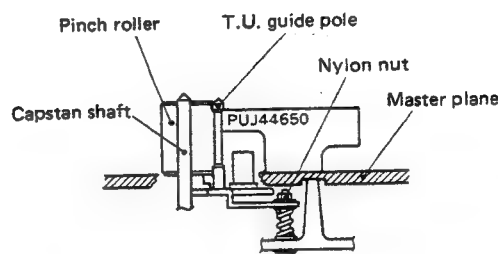

Fig. 2-28 Take-up guide pole height
2. If necessary, adjust the height by turning the nut as shown in Fig. 2-28.